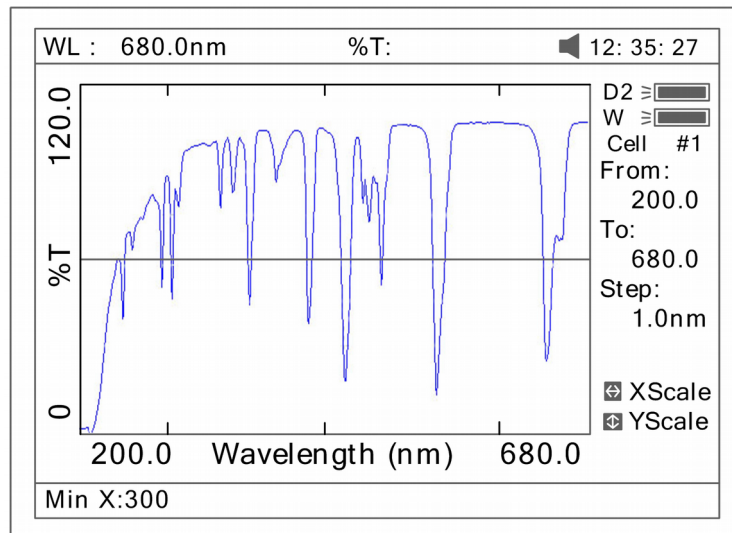
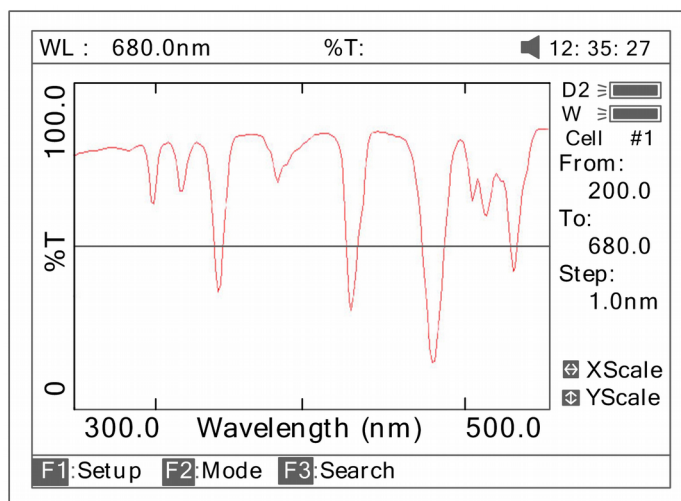

Fig 47
Fig 48
5. If you want to change the scale, press (<) or (>) to change "x" scale (Fig 47), input upper limit and lower limit by pressing the numeric keypad. To change "y" scale press (^) or (v). After these inputs the instrument will redraw the curve (Fig 48).
Press **(SAVE)** to save the curve. Note: Load/Save requires the first scan display page (Fig. 48).